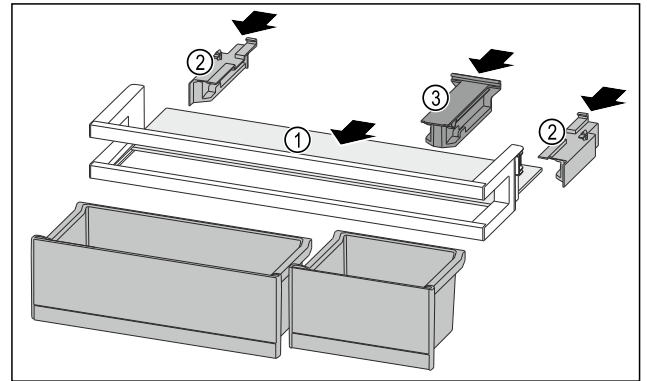

Fig. 100
- Push the shelf Fig. 100 (1) into the side recesses.
- Insert the side parts Fig. 100 (2).
- Insert the holding part Fig. 100 (3).